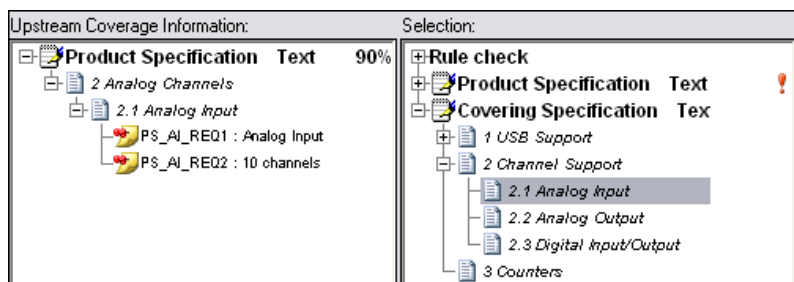

Figure 3-5. 2.1 Analog Input Section Selected in Coverage Analysis View
9. Double-click the **2.1 Analog Input** section of the Covering Specification document in the Downstream Coverage Information column. Requirements Gateway navigates to the 2.1 Analog Input section of the Covering Specification document in the Selection column, as shown in Figure 3-5.